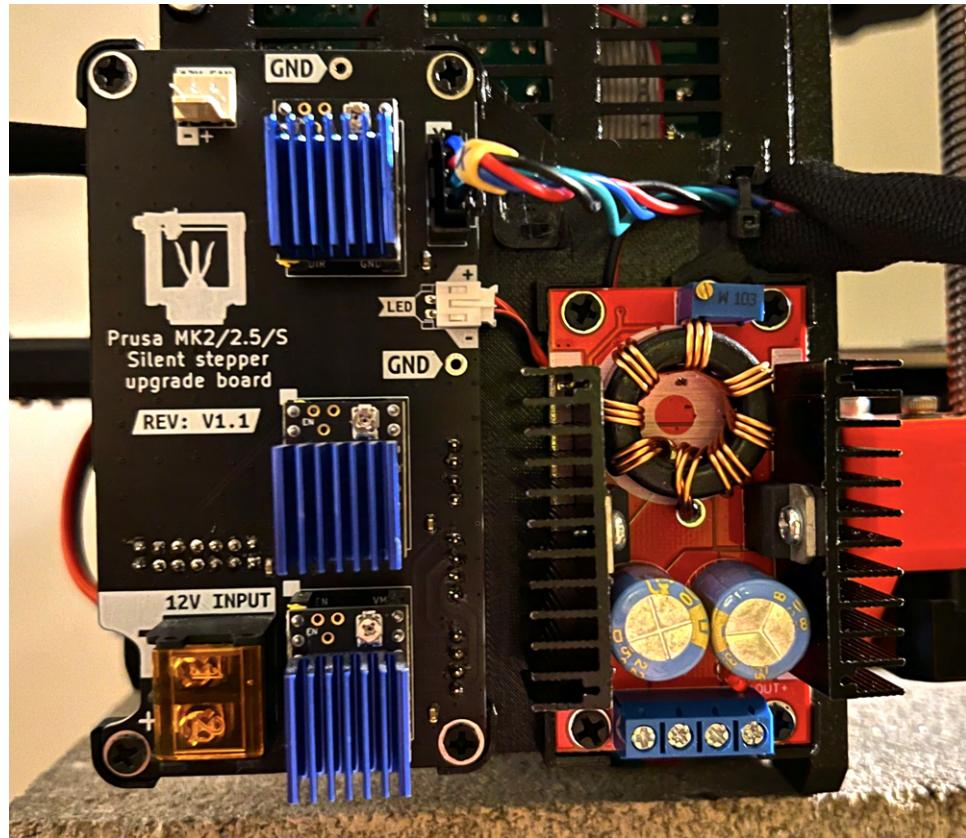

Figure 24: Boost converter mounted.
1. Securely mount the boost module using 4 self-tapping screws, as depicted in Figure 24. Please note that if you have the 24V-capable version of the light, you have the option to route the cable underneath the boost converter (refer to the Figure). However, exercise caution in that case to prevent the cable from being pierced by any of the metal legs on the boost converter.